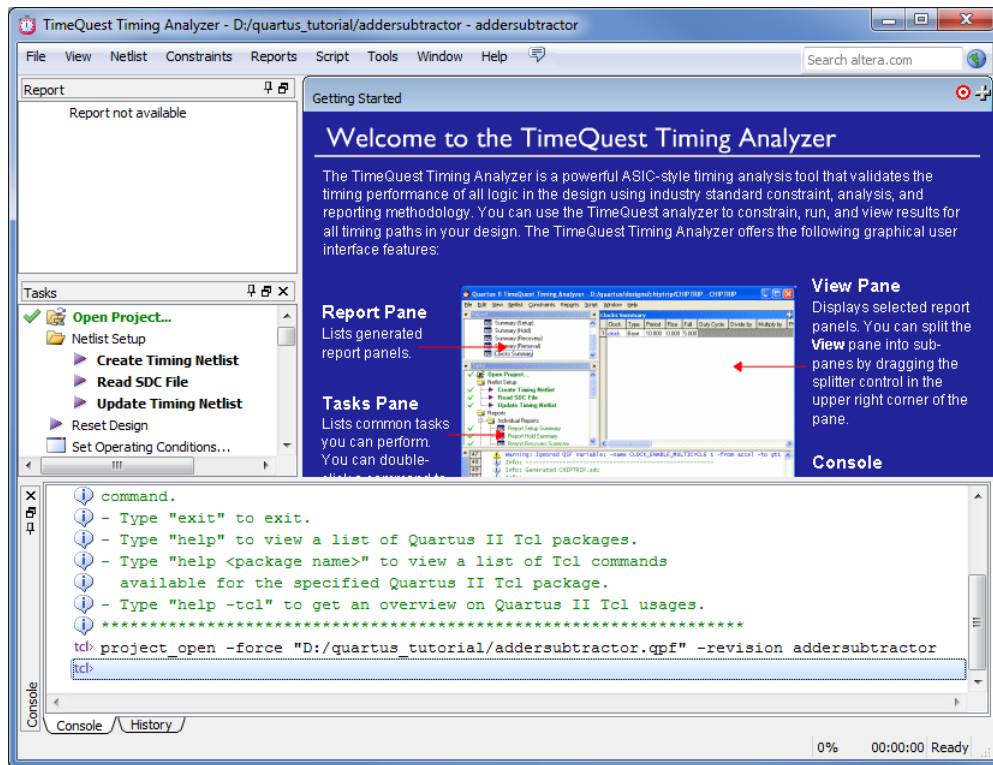
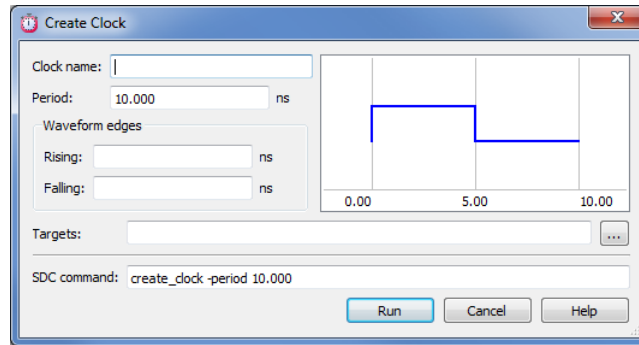
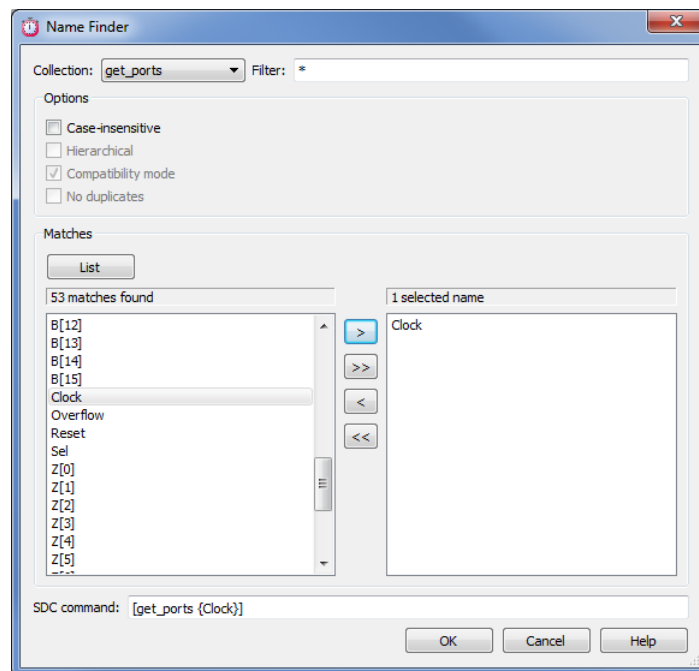
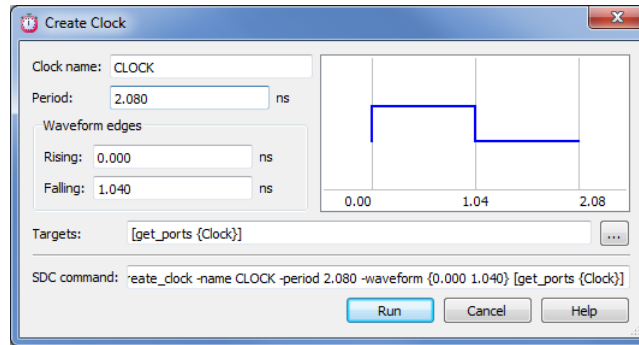

Figure 31: TimeQuest Timing Analyzer.
Figure 32: Create clock constraints.
Figure 33: Choose target clock.
Figure 34: Complete clock constraint.
1. Open TimeQuest Timing Analyzer by selecting **Tools > TimeQuest Timing Analyzer**, or by clicking the icon . Figure 31 shows the interface of TimeQuest Timing Analyzer. It is a very powerful tool for the designer to create, manage, and analyze timing constraints, and to quickly perform timing verification for their design. The compilation in Section 4 produced the f_{max} of 475.06 MHz, which translates to a minimum *period* of 2.105 ns. Suppose that we need a circuit that can operate at a clock frequency of 480 MHz. We can use the TimeQuest Timing Analyzer tool to create a new SDC (Synopsys Design Constraints) file containing the clock constraint.
In the TimeQuest Analyzer window, double click **Create Timing Netlist** under the **Tasks** heading to generate the timing netlist from database created after compilation. Then select **Constraints > Create Clock** from the menu to reach the dialog box in Figure 32. Specify a name for the clock you want to constrain. This name can be used to refer to this clock when creating other timing constraints. For this example, we will name the clock "CLOCK". As we want the circuit to operate at a clock frequency of 480 MHz, set the period to 2.08 ns in the **Period** field. To specify the actual clock this constraint is applied to, click on the ... button beside the **Targets** field in the **Create Clock** window to get the pop-up window in Figure 33.
Click on the list button in the middle left of the window to get a list of all the ports. Select **Clock** from the list of matches on the left and click on the > button to reach the display in Figure 33. This tells the TimeQuest Timing Analyzer to constrain the **Clock** port to the period you have specified. Notice in a larger design with many ports, we can enter the name of the port in the **Filter** field located in the top right of the window to reduce the number of matches in our search. Click **OK** to return to the dialog box in Figure 34.
In the SDC command field at the bottom of the dialog box in Figure 34, we can see the actual command that would be written into the SDC file. It creates a simple clock named `CLOCK` with a 2.08 ns period and associates this constraint with the port `Clock`. Click **Run** to return to the window in Figure 31. Select **Constraints > write SDC File** and save the file as *addersubtractor.out.sdc* in the project directory *quartus_tutorial*. Close the TimeQuest Timing Analyzer window to return to the Quartus® II main display.